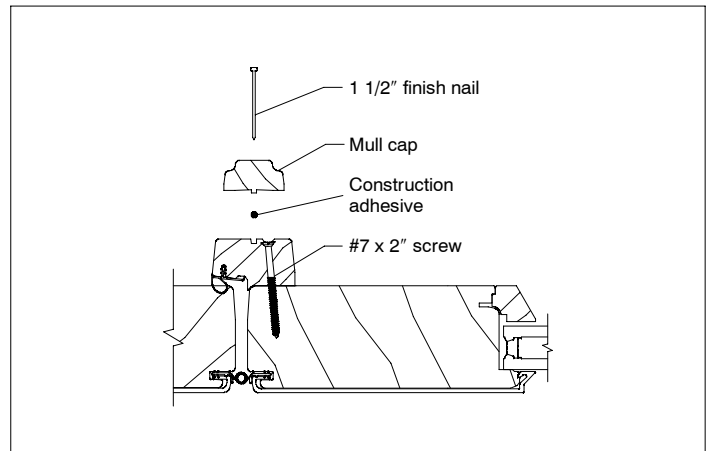

Figure 11
- Fasten mull base to the door panel using #7 x 2" screws. Fasten mull cap using 1 1/2" finish nails. See figure 11.